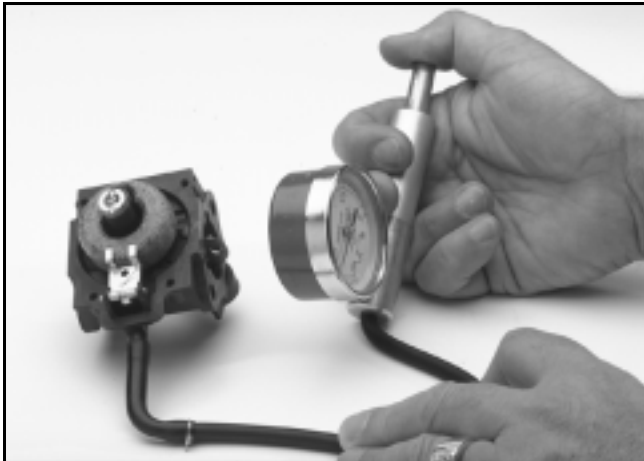

**Figure 32**
7. Adjust float so height is  $1/2 \pm .03$ " (.76 mm) from bowl flange (gasket not in place) to top of float (see Figure 32).